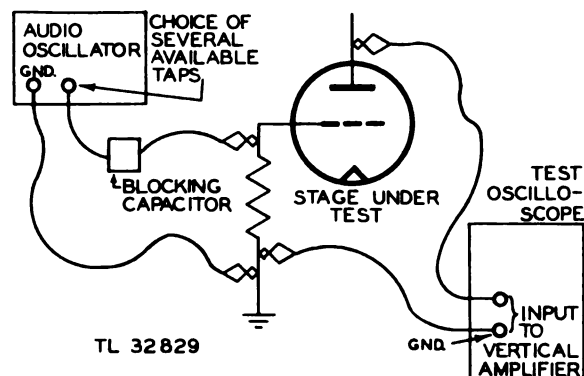

Figure 38. Audio oscillator, test connections.
c. *Description.* An audio oscillator is a device for producing an unmodulated, alternating voltage which can be continuously varied in frequency to cover the complete audio spectrum (approximately 15 cycles to 20 kilocycles per second). A method of applying this signal voltage to the grid of a tube is illustrated in figure 38. Although there are many forms of audio oscillators, basically they all consist of a means of generating an audio-frequency signal with vacuum tubes. This signal, with or without amplification, is fed to an amplifier-output stage which is transformer-coupled to the output terminals. The output terminals provide various impedance taps to match the output impedance of the audio oscillator to the input impedance of the circuit to which the audio voltage is applied. The audio oscillator also includes a power supply for the tubes.
a. General. The principle use of the audio oscillator in the repair and maintenance of Radio Sets SCR-268-(*) is in providing a signal for signal tracing and trouble shooting in audio circuits. Figure 38 illustrates the proper test connections, but bear
connection for applying a signal voltage to the grid of a tube is illustrated in figure 38.